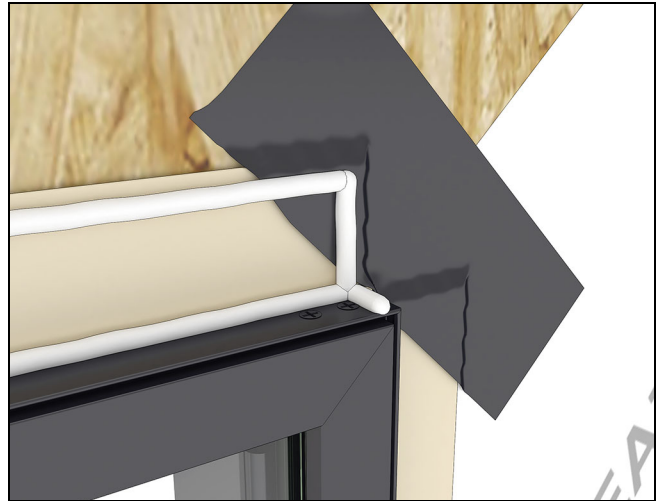
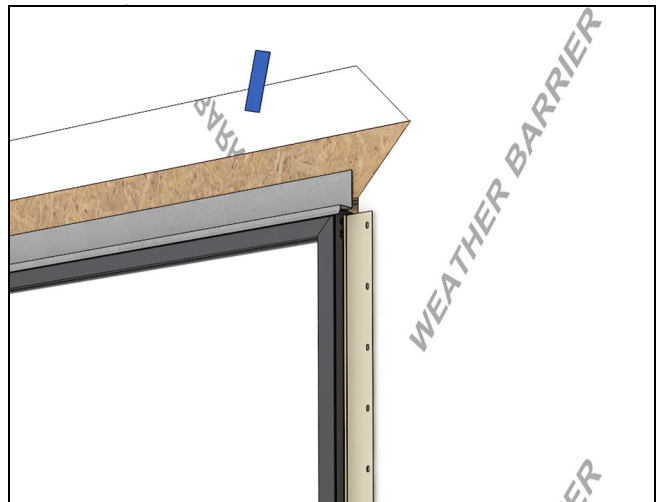

Figure 9
Figure 10
3. **Optional:** Install a rigid head flash. Seal both horizontal and vertical legs of the rigid head flash. See Figure 9 and Figure 10.